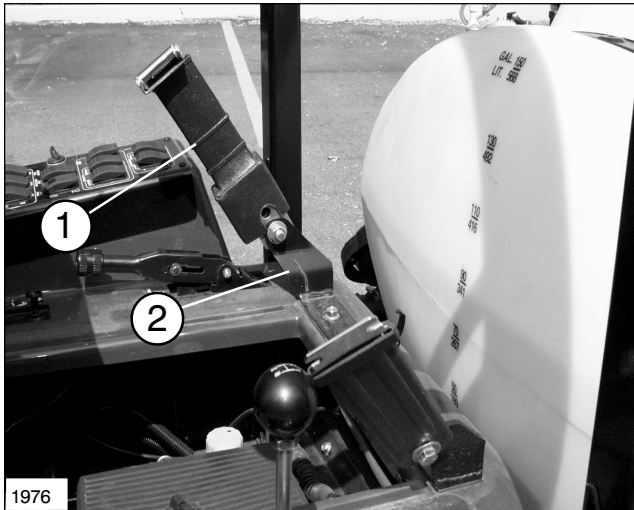

FIG. 3
3. Mount the seat belt assembly to the Seat Belt Bracket behind the Seat at a 45° angle using (2) 7/16" x 1-1/4" hex. hd. cap screws, lockwashers, and hex nuts as shown in FIG. 3 Using a torque wrench, torque nuts to 50 ft. lb.